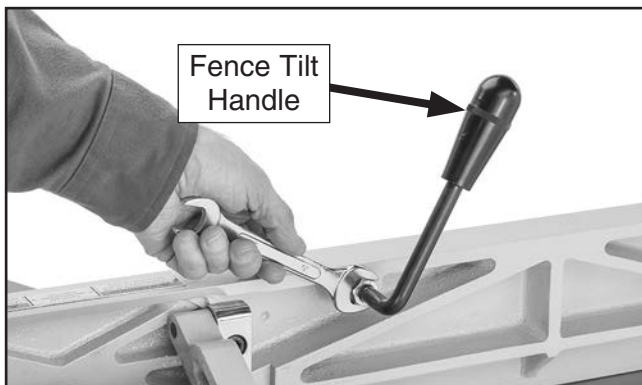

Figure 18. Positioning and tightening fence tilt handle.
4. Position and tighten fence tilt handle, as shown in **Figure 18**.